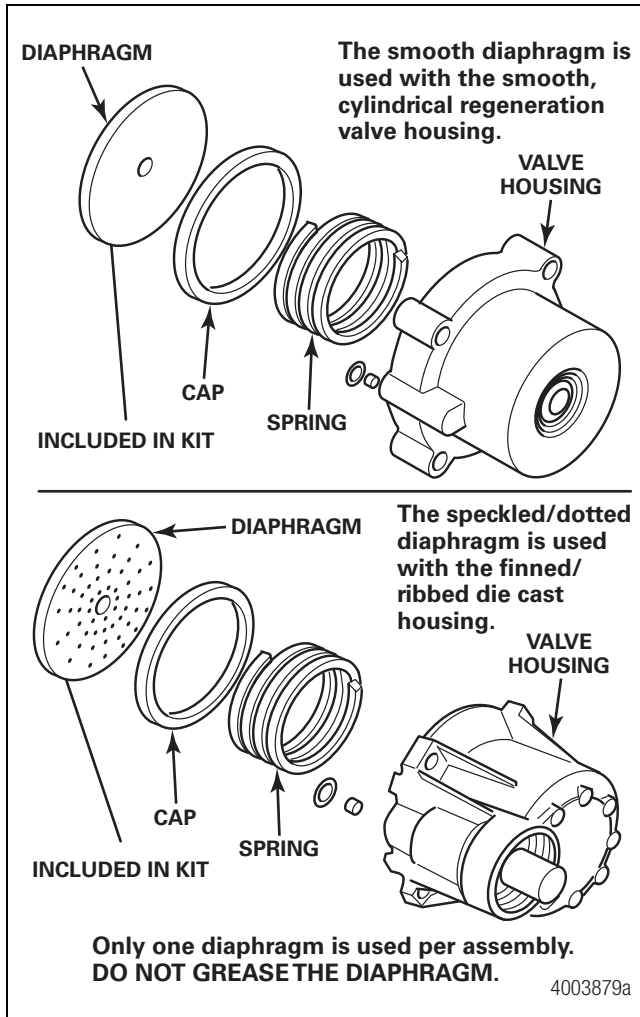

Figure 2.11
1. Review Figure 2.11 to ensure you have all of the parts required to replace the regeneration valve. Use the grease included with the replacement kit to lubricate O-rings and seals.